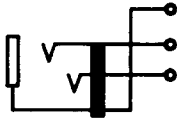

Fig. 7—582A or E Jack
2.07 **582A and E:** These are miniature single-mounted jacks (Fig. 7)